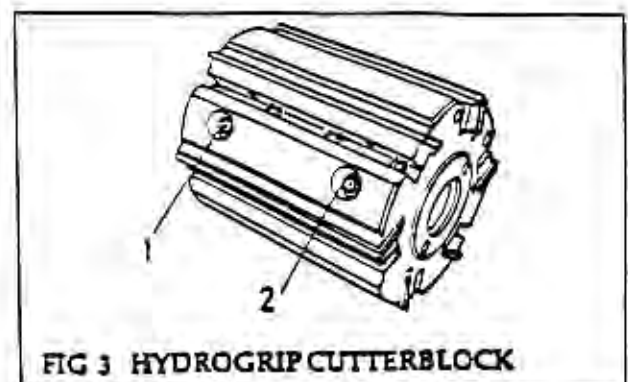

FIG 3 HYDROGRIP CUTTERBLOCK
Hydrogrip cutterblocks (Fig 3)
- (1) Carefully clean spindles, cutterblocks, spacers and collars before fitting new cutterblocks.
- (2) Carefully place the cutterblock on the spindle. On the Hydrogrip blocks tighten pressure release screw (2), and pressurise the cutterblock by applying hydraulic pressure to the pressure nipple (1) located in a recess located on the barrel of the block (see Fig 3).